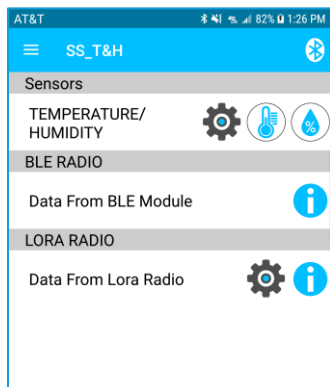

**Figure 10: Select device to connect to**
*The DevEUI printed on the pack of the label is sent as part of the Bluetooth advertisement. Look for that DevEUI in the Device List as shown in Figure 10.*